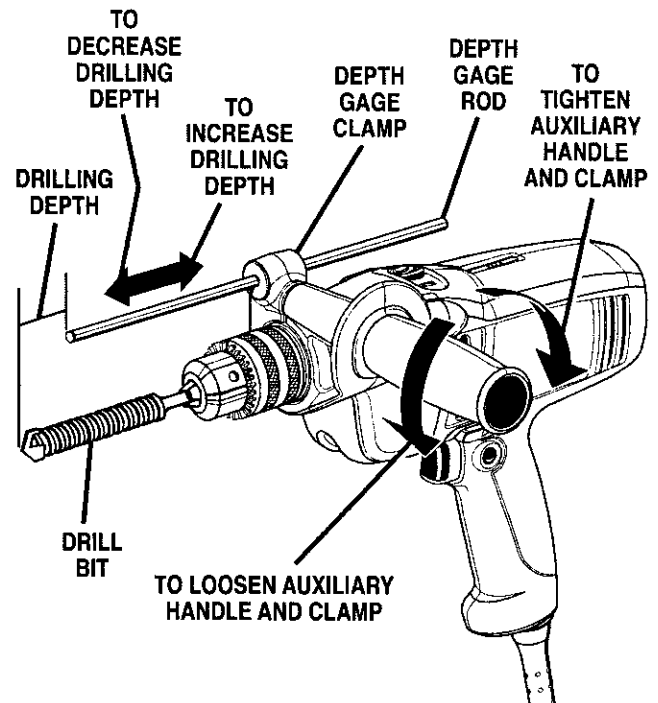

Fig. 7
See Figure 7.
- Install depth gage rod thru depth gage clamp as shown in figure 7.